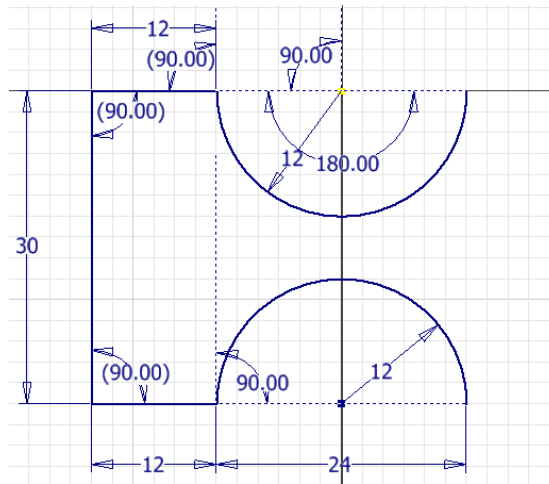

Figure 2-93 Sketch showing lower arc
12. Move the cursor upward, enter **12** in the length input field and press Enter; the lower arc is created, as shown in Figure 2-93.